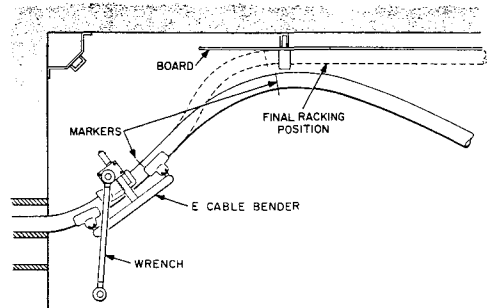

Fig. 4—Final Bending With D or E Cable Bender
- (5) For the reverse bend, move the bender to the position indicated in Fig. 4. Then bend the cable as described in (3). When the bends are completed and in proper relation to the duct and first rack, straighten the free end of the cable along the board.